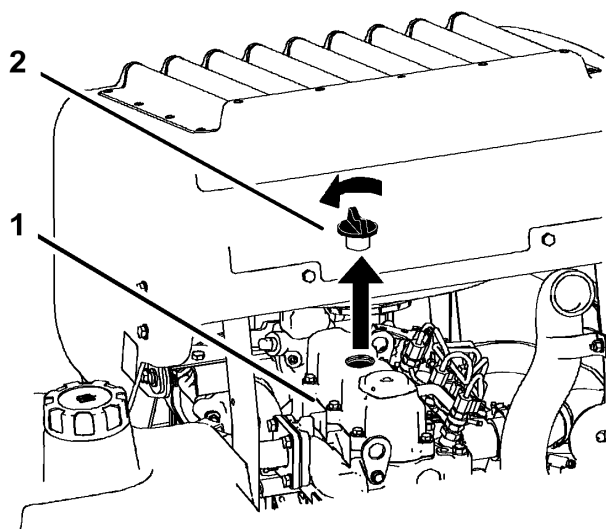

Figure 37
6. Remove the oil filler cap from the top of the engine (Figure 37). This will help the oil to drain.
2. Remove the oil filler cap and the dipstick (Figure 37).